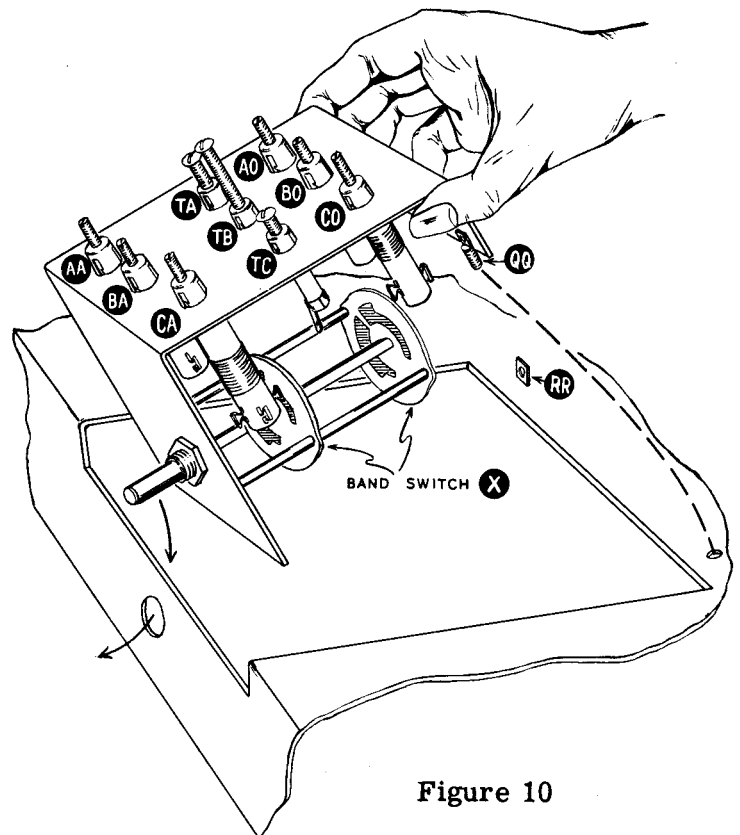

Figure 10
- ( ) Run a bare wire from BA2 (S) to XA3 (S).
- ( ) Run a bare wire from CA2 (S) to XA4 (S).
- ( ) Run a bare wire from XB2 (S) to AA4 (S).
- ( ) Run a bare wire from XB3 (S) to BA4 (S).
- ( ) Run a bare wire from XB4 (S) to CA4 (S).
- ( ) Run a bare wire through double clip XC1-XD1 (S) to double clip XC5-XD5 (NS). Leave 2 1/2" of wire extending beyond XC5-XD5. Use sleeving on the wire between XC1-XD1 and XC5-XD5.
- ( ) Connect wire coming from CO3 to XC5-XD5 (S).
- ( ) Connect the bare wire coming from AA3 to XB12 (NS) (use sleeving).
- ( ) Connect a bare wire from CA1 (S) through XA5 (NS) to XA1 (NS). Use sleeving between XA1 and XA5.
- ( ) Connect a bare wire from XA5 (S) to XB5 (S).
- ( ) Fasten one spade bolt to hole QQ on the coil shield as shown in Figure 10, using 6-32 x 3/16 screws, #6 lockwashers and nuts. Note that the spade bolt mounts from inside the coil shield.
- ( ) Insert the coil and switch assembly from the top of the chassis as shown in Figure 10, through the chassis cutout so that the bandswitch shaft goes through the hole in the front of the chassis.